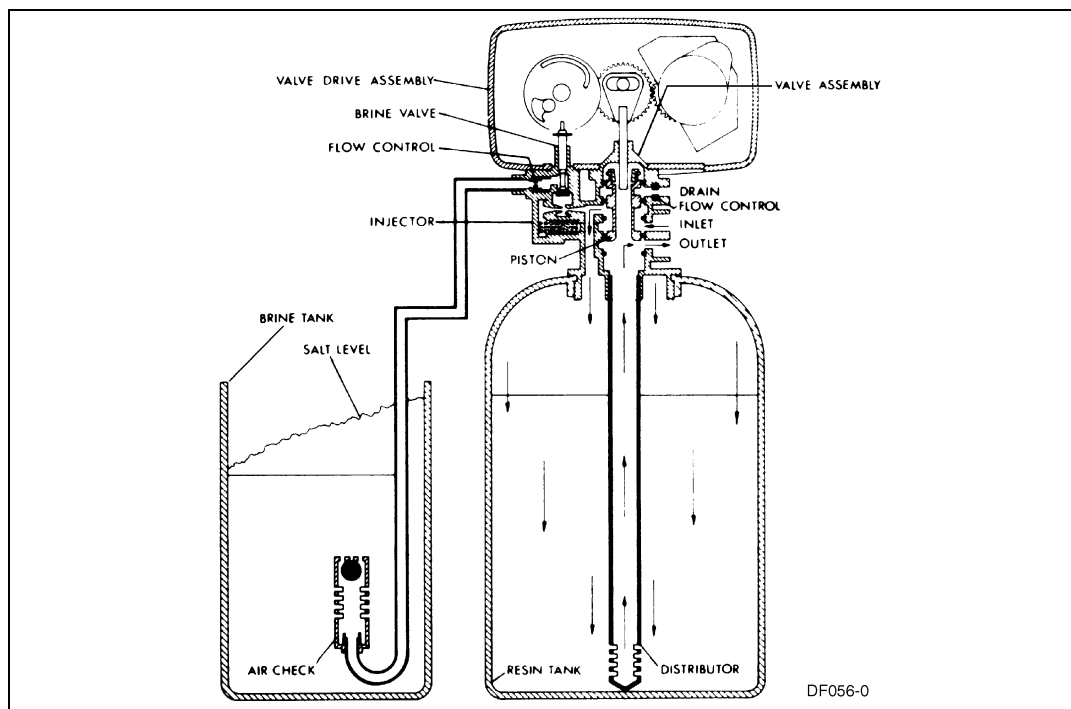

Figure 4: Service Position
1. **In Service** position. *See Figure 4, page 10.*
- Same as *Figure 4, page 10* with standard piston (white end plug) or filter piston (black end plug).